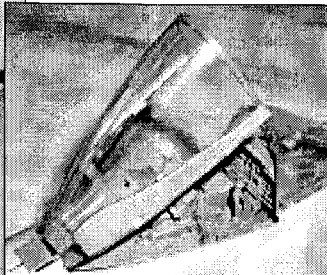

Figure 15
- Glue the fuselage door in place at the rear of the canopy per Figure 15.